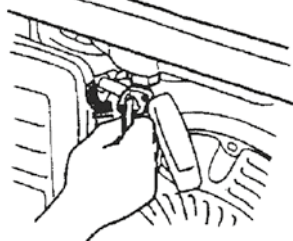

Fig. 5
4.3 Check the level of engine oil and fuel. Set the fuel switch to ON position. (Fig. 5)